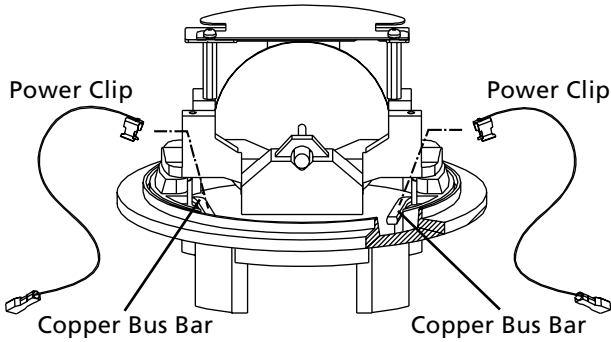

Figure 18. Attaching Power Cables to Non-AMR Ready Meter
3. If you have an AMR Ready meter, go to step 4. If your meter is not AMR Ready, attach the power clips to the copper bus bar on the inside of the meter using needle-nose pliers (see Figure 18). Then, go to step 5.